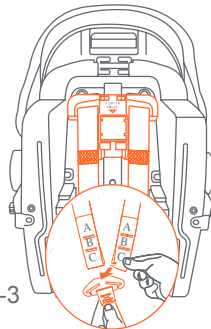

Fig. 32-3
6. Turn the seat over. Locate the Metal Adjuster Plate near the bottom of the seat (Fig. 32-3). Remove both Harness Straps from the Belt Adjuster Plate.